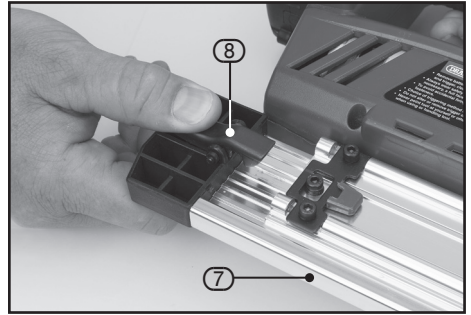

FIG.4
8.5 LOADING NAILS AND STAPLES – FIGS. 4 – 7